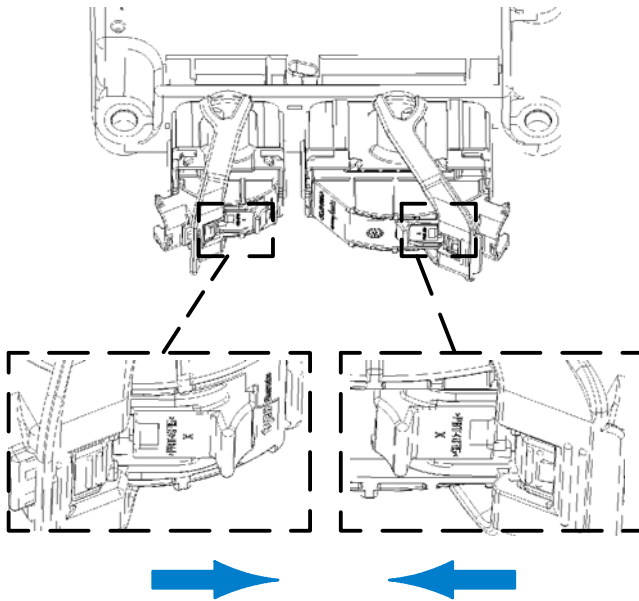

Figure 8
1. Move the CPA lock back to the open (pre-set) position. Refer to Figure 8.